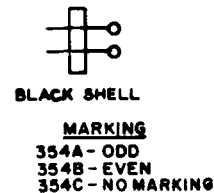

Fig. 10—354-Type Plug
2.04 354A, B, and C: The 354A, B, and C plugs (Fig. 10) consist of a block of insulating material provided with two pin terminals at one end and designed for a P4AD cord at the other end.